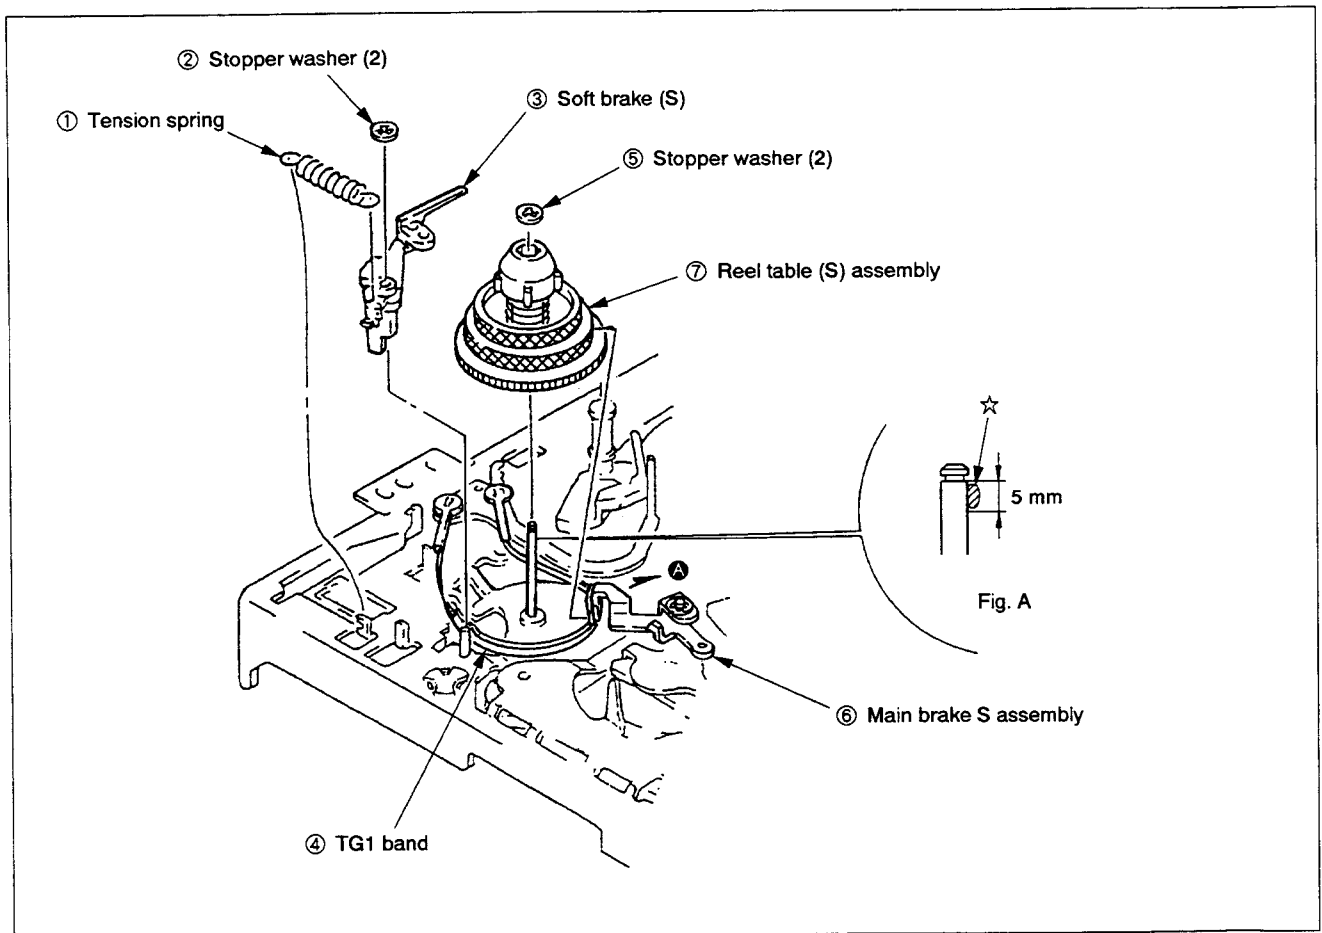

Fig. 3-23
### 3-21. REEL TABLE (S) ASSEMBLY (Fig. 3-23)
- 1) Remove tension spring ① from the chassis side.
- 2) Remove stopper washer (2) ② to pull out soft brake (S) ③.
- 3) Move TG1 band ④ over the reel table.
- 4) Remove stopper washer (2) ⑤.
- 5) While pressing main brake S assembly ⑥, pull out reel table (S) assembly ⑦.